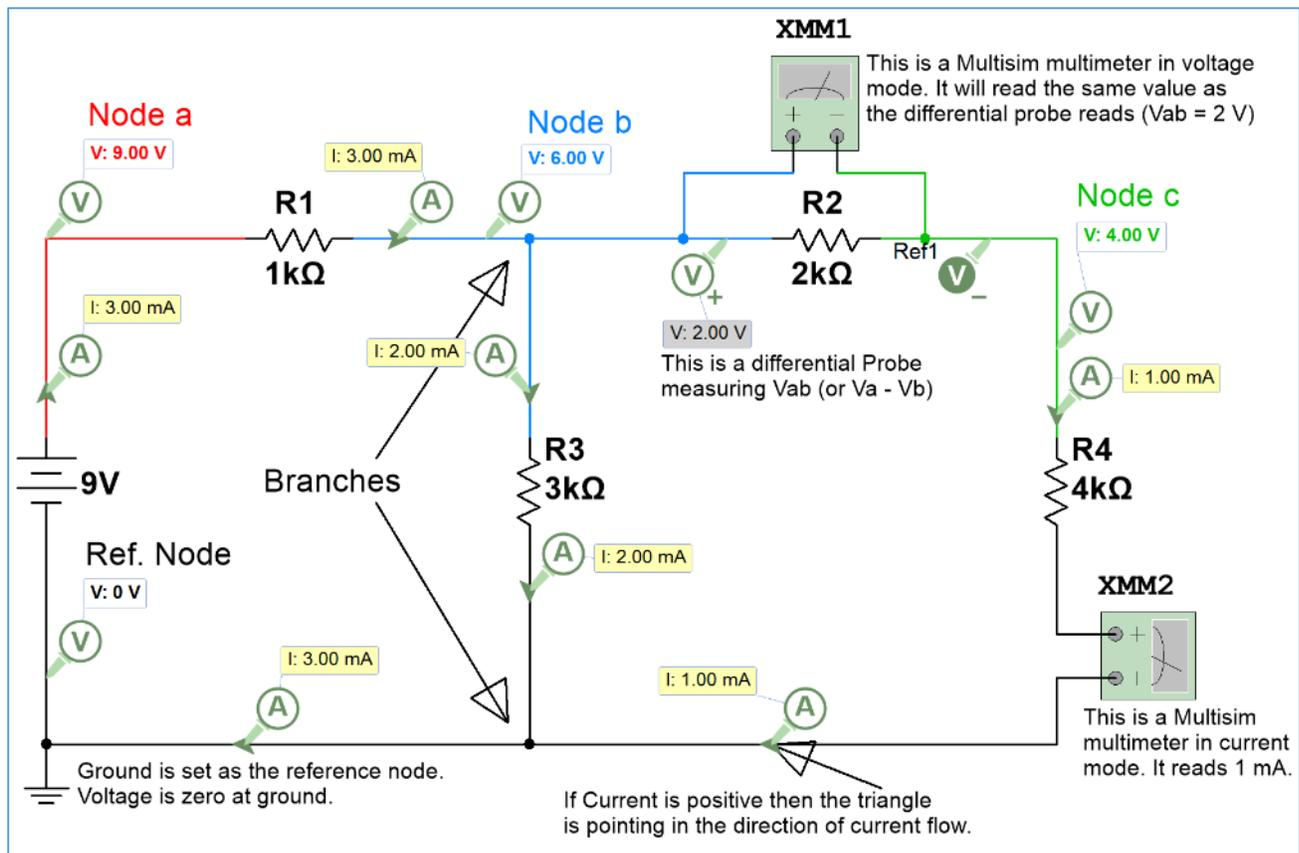
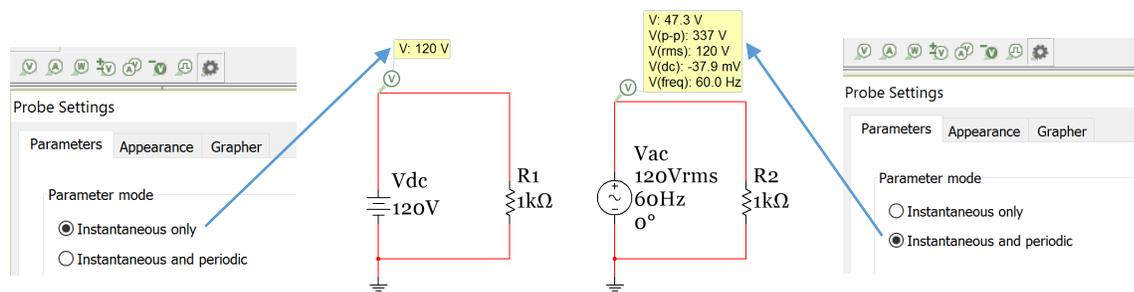
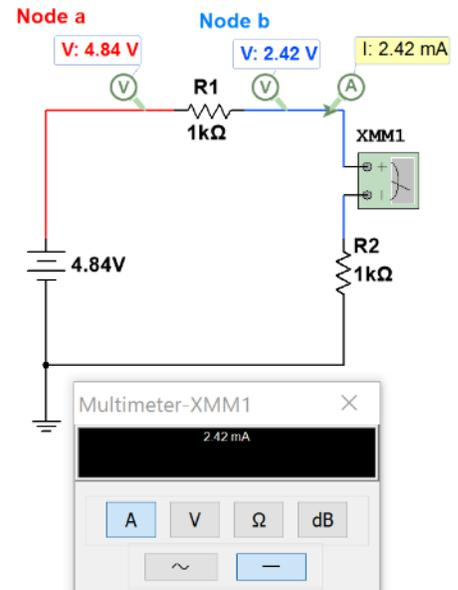

Figure 1.7: Circuit showing probes, Multimeters, branches, and nodes.
Figure 1.7a: Preferred probe settings for DC circuits (Left) and AC circuits (Right).
Figure 1.8: Circuit showing current measured with a Multimeter.
Before discussing current let's look at some statements about voltage. Figure 1.7 provides some visual explanations to these statements.
- Voltage is the same at all points on a node (a place shared by 2 or more circuit elements). For example, the blue line that represents Node b in Figure 1.7 is 6 V at every point on the blue line.
- When measuring voltage across one or more components with a Multisim Multimeter (see XMM1) you wire two different nodes to the + and – terminals and then double click on the meter and put it in Volts mode (V) and DC mode (straight line). XMM1 reads the voltage value across R2, which is also the value of Vab. Vab is the difference between node voltages Va and Vb. Vab is an example of **double subscript notation** ($V_{ab} = V_a - V_b$). Va is an example of **single subscript notation**. Va is the voltage at node a, and the reference is ground. When ground is not the reference for the measurement differential probes can be used to measure the voltage difference between nodes.
- Current doesn't change as it runs through components until it is split in a branch (see Figure 1.7). Voltage doesn't change at a branch unless it goes through a circuit element.
- When measuring current with a Multisim Multimeter (see XMM2 in Figure 1.7), you have to break the circuit and run it through the meter and then double click on the meter and put it in Amps mode (A) and DC mode (straight line). The same process is used to measure the current with an actual Multimeter as shown in Figure 1.8.
CAUTION: If you place the meter probes across a resistor (i.e. one probe on each side) and put the meter in current mode you will likely blow the fuse and/or damage the meter because the resistor that limits the current in the circuit is bypassed, which might result in excessive current flowing through the meter. Students frequently make this mistake when measuring current instead of “breaking” the circuit to measure the current, as shown in Figure 1.8. If you blow the fuse, the current will measure zero for all current settings, but the voltage readings will still work. Getting the fuse replaced is not ideal, but it is a simple thing to fix. However, the Multimeter might also have its internal circuitry damaged, so test the current readings at another setting to see if you are getting wrong results at the setting you were using when you measured current incorrectly. Measurement mistakes from students in ENGR 2431 have caused a lot of blown fuses and a lot of damaged meters (especially the 20 mA setting), so make sure you measure current correctly and make sure it is in the correct mode when you turn it on.
Note: In Figure 1.7 all of the Multisim probes only have I and V, but when the current and voltage probes are normally placed in Multisim the “Instantaneous and periodic” probe setting is the default so you will see 5 voltage measurements (as shown in Figure 1.7a). From top to bottom these voltage measurements are: 1-Instantaneous, 2-peak to peak (V_{pp}), 3-Root-Mean-Square (V_{rms}), 4-average (V_{avg}), and the 5-frequency. The average voltage is labeled V(dc) in the Multisim probe because V_{avg} is equivalent to the DC value. The instantaneous voltage is the value at a specific time and will continuously change as the AC current flows through the circuit. These four **additional parameters** for voltage or current are only used for AC circuits. When dealing with DC circuits there is only one type of voltage and current so only the instantaneous measurements are needed. To get only the DC current or voltage, click on the probe settings and change the default to “Instantaneous Only” (see Figure 1.7a).
The circuit in Figure 1.8 shows a simple circuit with two resistors in series with a battery pack that has three AA batteries in it. You can see how one end of one of the resistors is pulled out of the breadboard to break the circuit and allow current to be measured with the Multimeter.
Example 1.8) using equation 1.6 solve for the current flowing through the R_1 resistor in Figure 1.8.
Answer: Applying equation 1.6 to the circuit in Figure 1.8 yields: